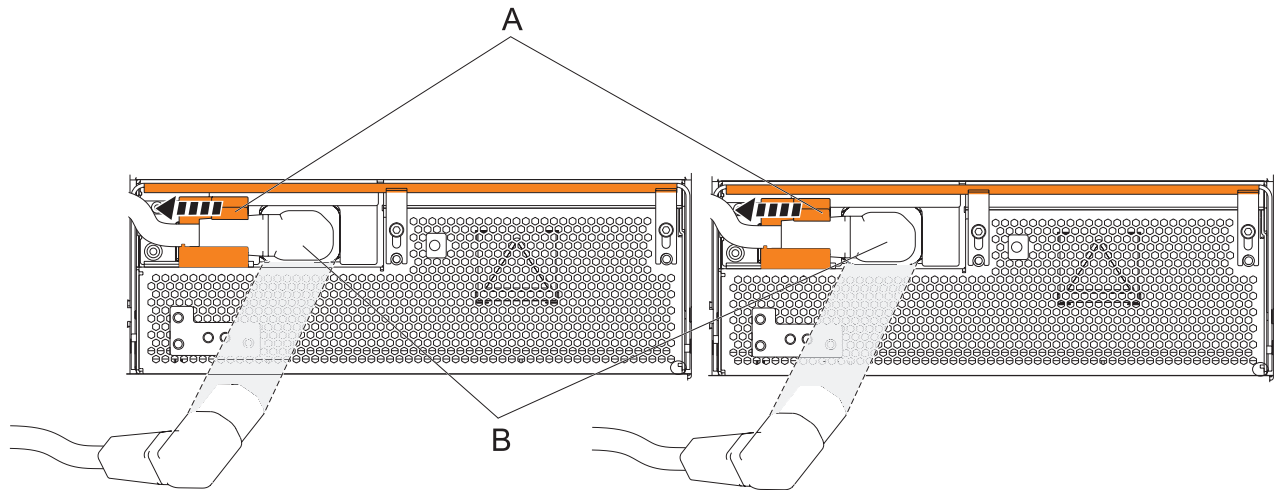

Figure 84. Disconnecting the OCA power cords
- a. Slide the power cord holders **(A)** to the left, located on the front of both the OCAs. See Figure 84 on page 113.